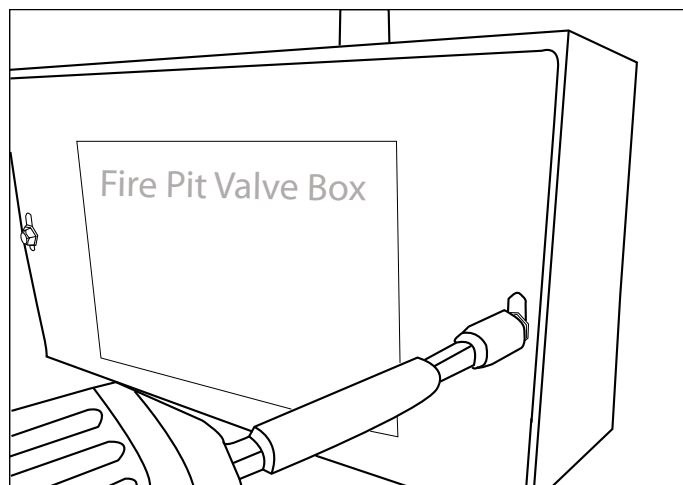

Fig. 24 Removing the cover from metal box.
1. Remove the two screws securing the cover on the control box (See fig. 24). The cover will slide down exposing the gas valve and control module.